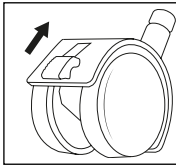

Fig. 5
- ◆ The appliance comes with four castors **10/11** for easy transport. Release the levers on the two castors with locking levers **11** by pushing the levers upwards (see fig. 5). The appliance can now be rolled conveniently.